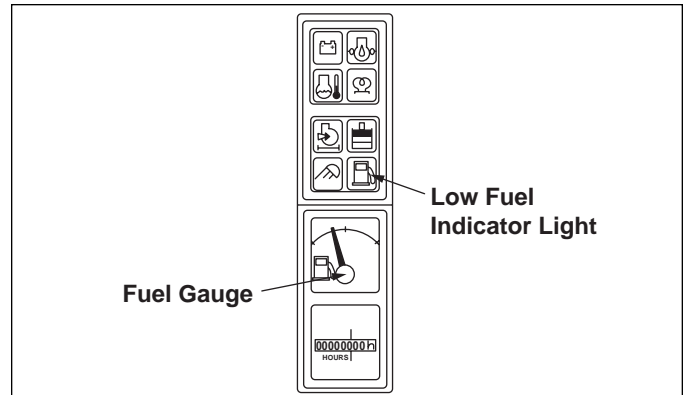

Figure 4-6. Fuel Gauge and Low Fuel Indicator
The fuel level in the tank is indicated by the fuel gauge on the console (Figure 4-6).
**NOTE:** When the fuel level reaches 2.5 gal. (2.3 L) the low fuel indicator light (Figure 4-6) will come on to alert the operator.